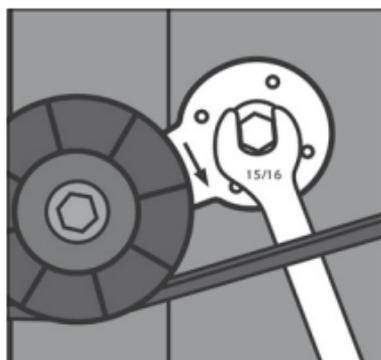

Fig. 2
1. The directional arrow on the top of the arm must point in the direction of the belt(s). See Figure 2. If not, it is necessary to disassemble the tensioner and reverse the spring. See step 2. Otherwise, proceed to step 3.
7. The tensioner spring is not yet under tension. Put the idler in light contact with the belt(s). Place a 15/16" open end wrench on the hex nut on the tensioner body and rotate it clockwise if the arrow points towards the "phone number" or counter-clockwise if the arrow points to "Fenner Drives" (when viewed from the front) until you feel light spring pressure. This will be the starting point for establishing tensioner force and degrees of rotation. See Figure 2.